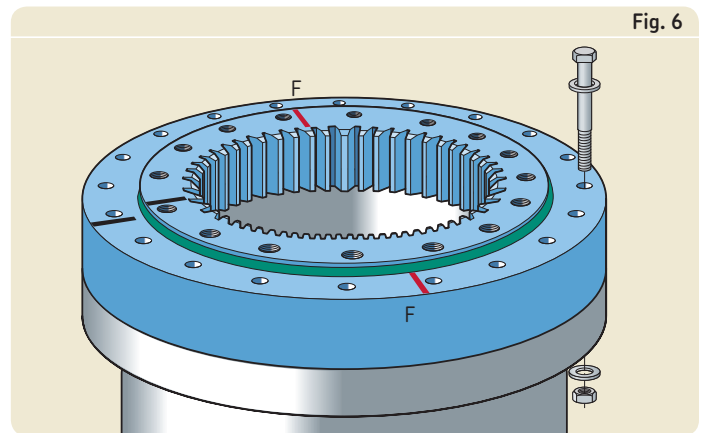

Fig. 6
- 7 Fit the bolts, washers and nuts and manually tighten them (→ **fig. 6**).